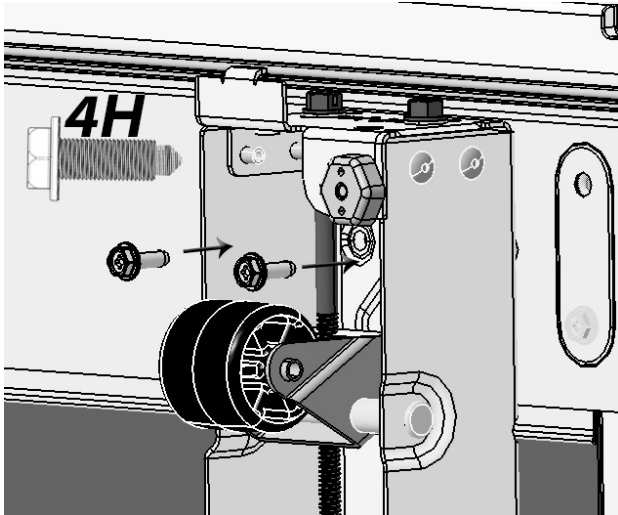
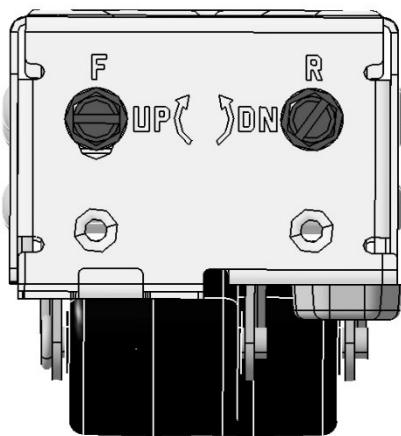

Figure 4
Figure 5
- b. Using the 4H bolts from step 1, fasten the front of the Leveler Assembly to the refrigerator/freezer using a 5/16" Nut Driver (Figure 4). If more fastening space is required, rotate the bolt labeled "F" clockwise (Figure 5) using a flat head screwdriver or a 3/8" socket wrench.
- c. Use a flat head screw driver or a 3/8" socket wrench to adjust the front bolts of the Leveler Assemblies as seen in Figure 5. Raise or lower the front and back wheels as needed until the refrigerator/freezer rests properly in the cabinet space.